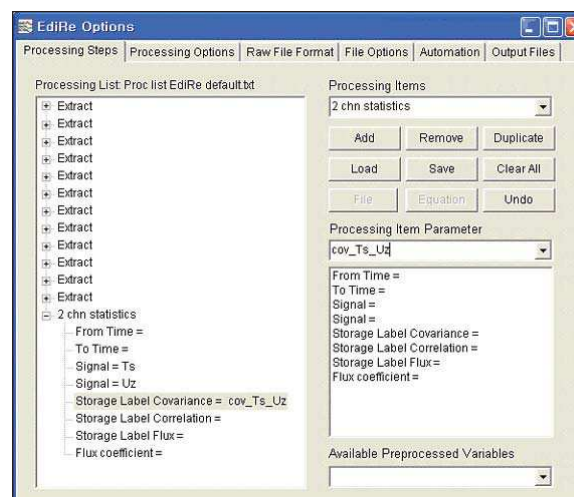

Figure 9: Data are measured and computed online by the datalogger and stored in the time series data file, `ts_data.dat`.
21. If you wish to compute fluxes, you can also type in the label for the computed flux and the appropriate flux coefficient. In this example, we are computing the sensible heat flux, using the sonic temperature, T_s , and vertical wind speed, U_z . The flux coefficient of sensible heat flux is computed from the temperature and vapor pressure data. These data are measured and computed online by the datalogger and stored in the time series data file, `ts_data.dat` (see Figure 9).